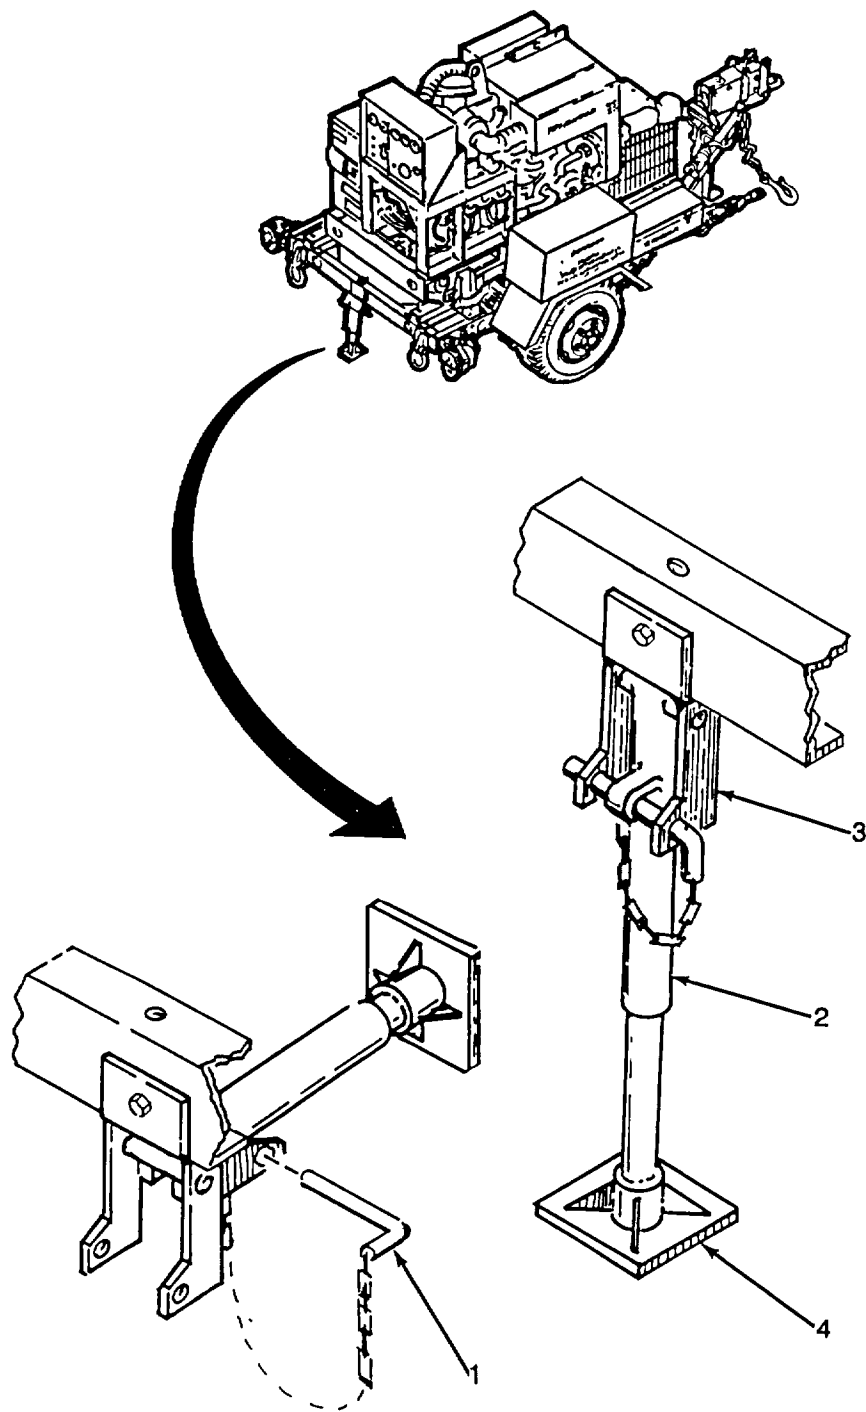

Figure 4-4. Leg Prop Assembly.
- e. Pull out pin (1) that secured leg prop assembly (2) in traveling position. Refer to figure 4-4.
- f. Pull leg prop assembly (1) down. Insert pin (2) in bracket (3) to secure leg prop assembly (1) in operating position. Refer to figure 4-4.
- g. Turn leg base (4) until it makes firm contact with ground.